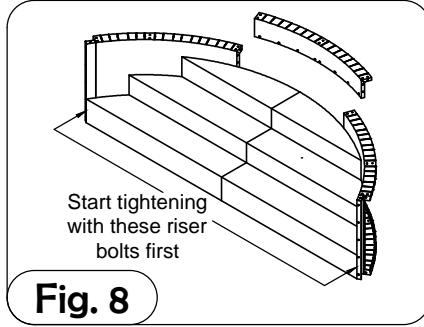

Fig. 8
10. Bolt top radius step to left and right radius stair side panels. Bolt top radius step to top center steps (Fig. 8).
Begin tightening bolts starting with the bottom riser bolts (Fig. 8). The riser of the bottom step should be flush with the end of the stair filler. This will help insure the finished stair assembly is square and level. Check tread and riser measurements as each step is bolted tight to ensure the correct finished dimensions are achieved (Fig. 9)